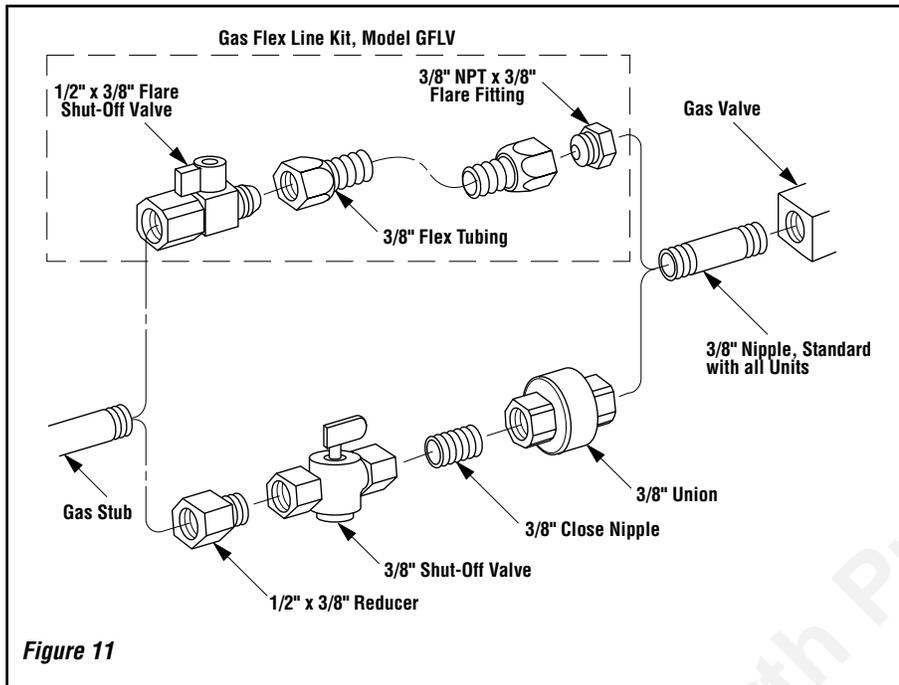

Figure 11
**Step 5. Connecting Gas Line –** Make gas line connections. All codes require a shut-off valve mounted in the supply line. *Figure 11* illustrates two methods for connecting the gas supply. Installation methods and materials must be in compliance with local codes.